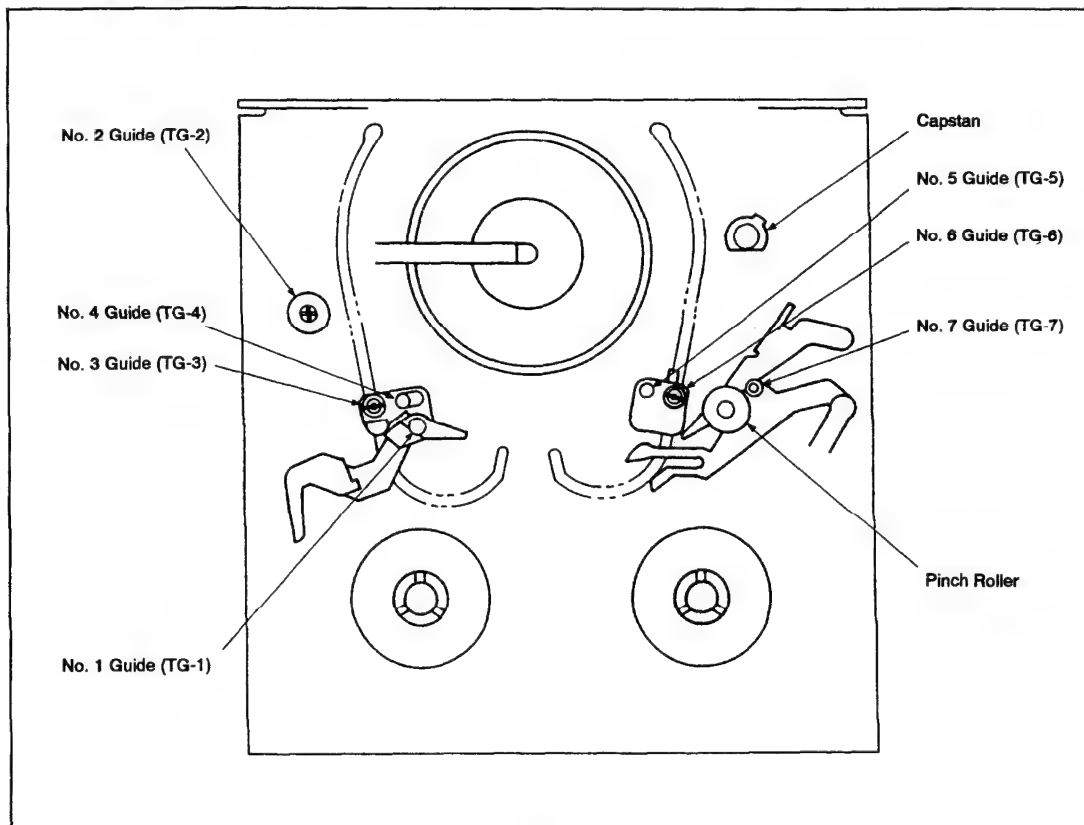

Fig. 2-1.
2. PERIODICAL CHECK AND MAINTENANCE (See Fig. 2-1.)
- 1) Set the cassette compartment assembly to the eject state, or remove it. Then clean the tape path (guides No. 1 to 7, capstan shaft, pinch rollers) with a piece of chamois leather moistened in cleaning fluid (See Fig. 2-1).